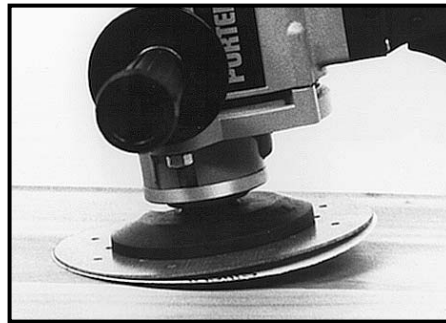

Fig. 7
3. Hold sander firmly by the rear and auxiliary handles, making sure sanding disc is clear of work and foreign objects. Start sander and lower at an angle so that approximately 1" to 11/4" of the sanding disc contacts the work (see Fig. 7). Too great an angle may result in gouging or snagging the work, while too small an angle results in extreme difficulties in controlling the sander.